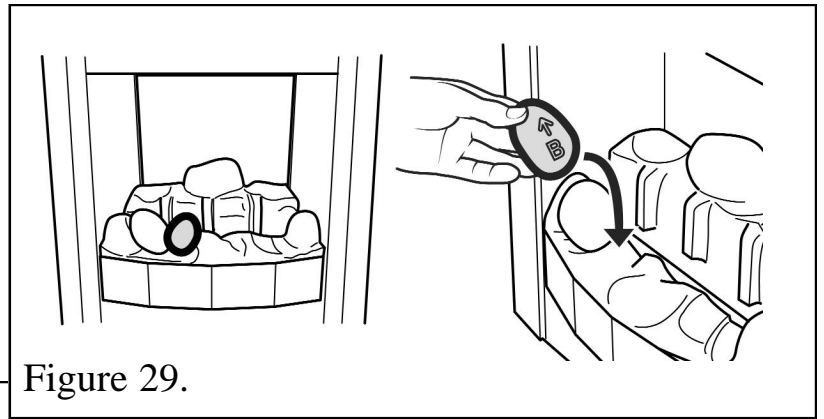

Figure 29.
5. Hold pebble 'B' upright with the arrow pointing to the top. Place pebble "B" on top of the front base pebble (See figure 29).